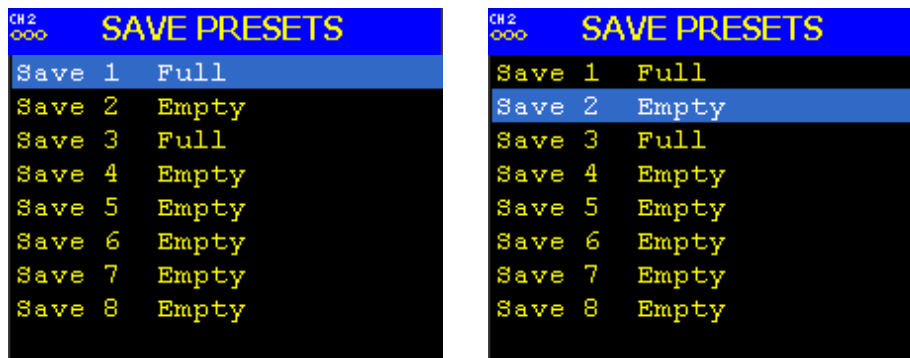

Figure 64: Save Menu, Save Presets – Slot 1 Full, Slot 2 Empty
The Save Presets screen, shown in Figure 64, provides eight (8) slots for saving presets. Use the Up and Down arrow keys to select a save slot with the message 'Empty'. Pressing the 'Enter' key saves the current configuration in that slot. When a Save is successfully stored, the menu displays the message 'Full' next to the selected save slot.